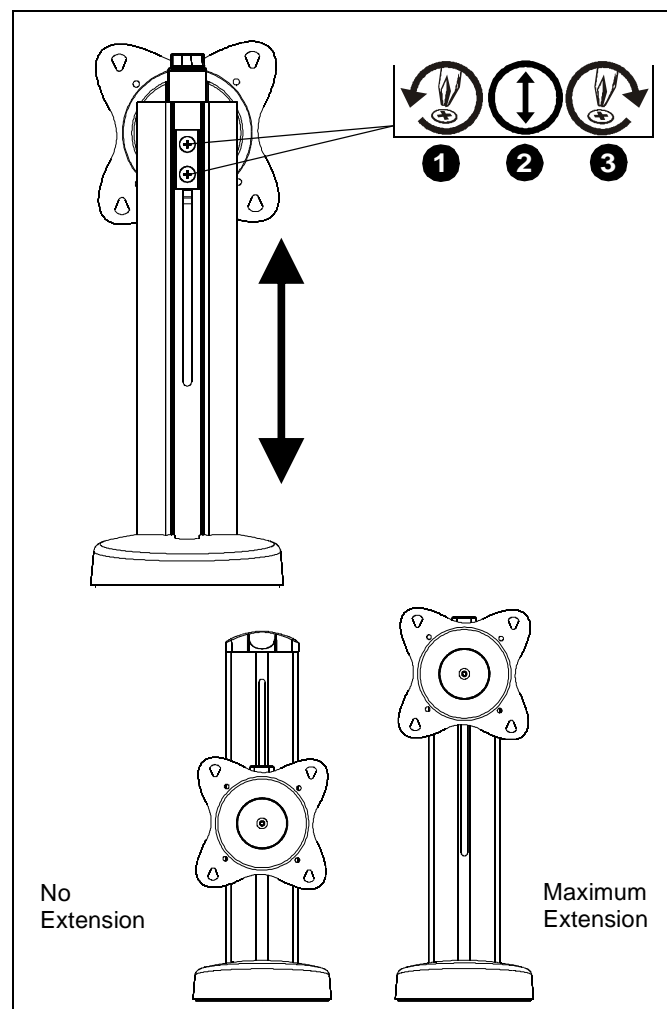

Figure 9
1. Loosen, but do not remove, two Phillips head screws on back of STS1 assembly. (See Figure 9)
3. Tighten two Phillips head screws on back of STS1 assembly. (See Figure 9)